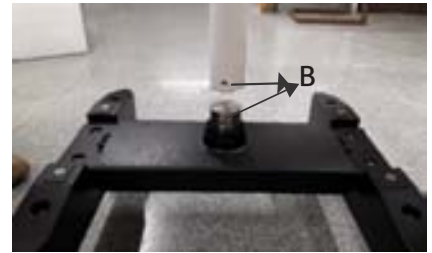

Fig 13
1. Open the microscope box. Remove column from the box. Engage this column onto the shaft by aligning three guide holes on column and shaft, shown as B in Fig 13.